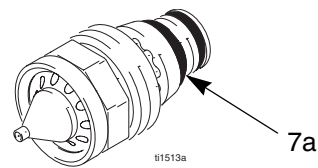

Fig. 21. Nozzle Conductive O-Ring
6. Make sure the metal contact (C) in the barrel, the nozzle contact ring (7a, FIG. 21.), and the electrode contact (E) are clean and undamaged.